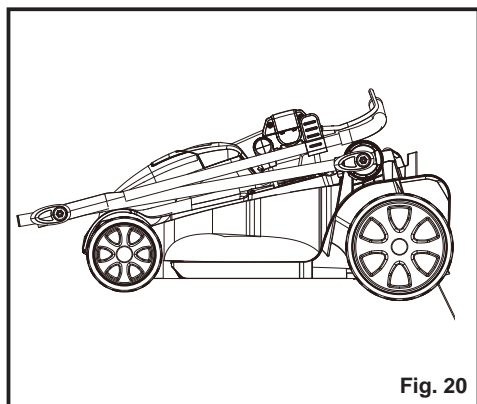

Fig. 20
- Fully loosen the handle locking knobs on the sides of the handle and fold the upper and lower handles down (Fig. 20).